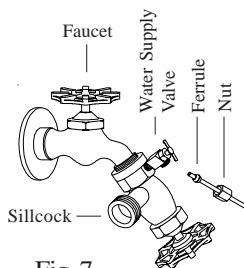

Fig. 7
- **Connect water supply line.** Install a sillcock and water valve on faucet as shown by figure 7. Place the nut and ferrule on the tubing and tighten the nut until water tight. **NOTE:** Do not connect the water supply to any soft water applications.